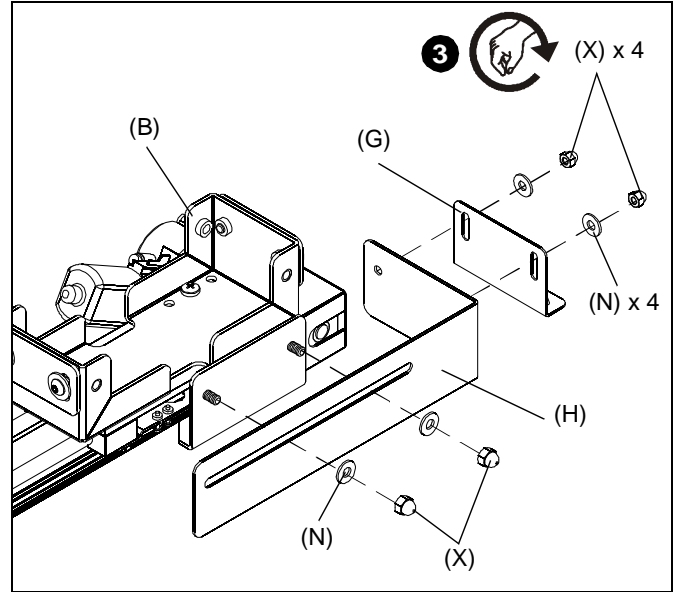

Figure 5
3. Turn actuator assembly (B) on its side and attach bracket (H) and art support bracket (G) to the lower end using four 1/4" flat washers (N) and four 1/4-20 acorn nuts (X). (See Figure 5)